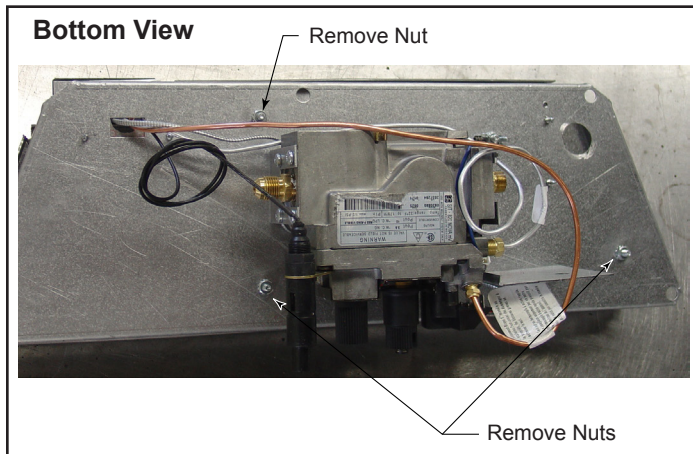

Figure 12 - Remove three (3) nuts securing ember bed in place.
1. Remove three (3) nuts on bottom side of burner pan with a 9/32" or 7mm wrench. (Figure 12)
2. Thread and tighten (3) nuts back onto pem studs on underneath side of control panel, reversing Step 1 shown in Figure 12.